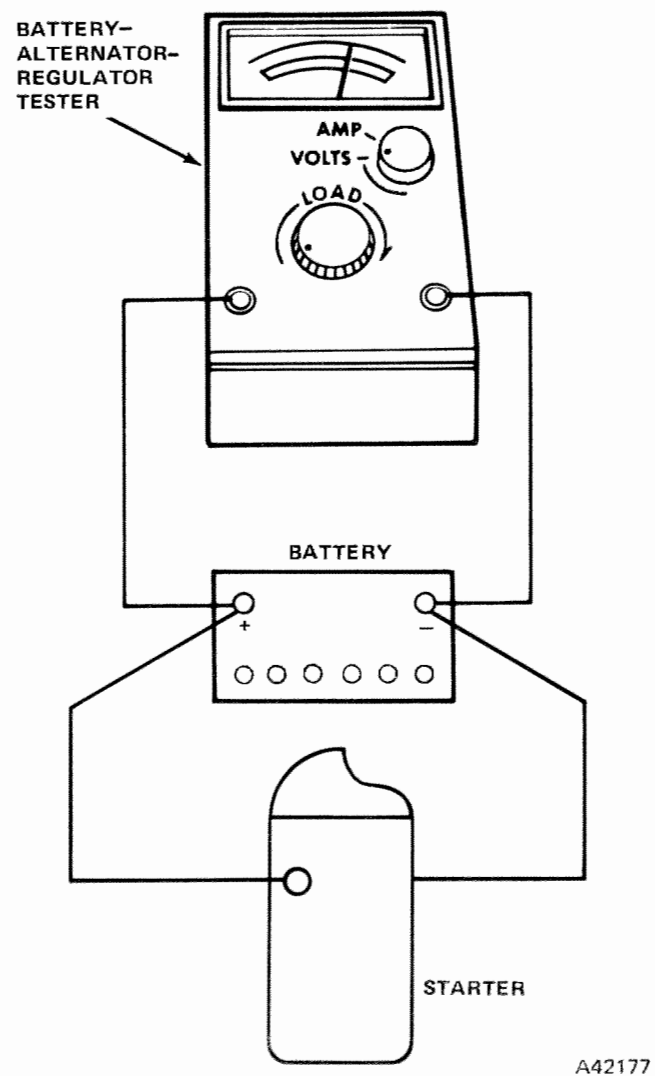

Fig. 3-41 Starter Motor No-Load Test
(1) Operate starter with test equipment connected as shown in figure 3-41. Note voltage reading.
(2) Determine exact starter rpm using a mechanical tachometer (not shown).
(3) Disconnect starter from battery.
(4) Turn load control knob clockwise (Increase) until voltmeter reading is exactly the same as it was with the starter connected to the battery.
(5) If ammeter reading at no-load speed is below specifications, starter has high electrical resistance and should be repaired or replaced.
(6) If ammeter reading is higher than it should, starter should be disassembled, cleaned, inspected, and tested as outlined in the following paragraphs.